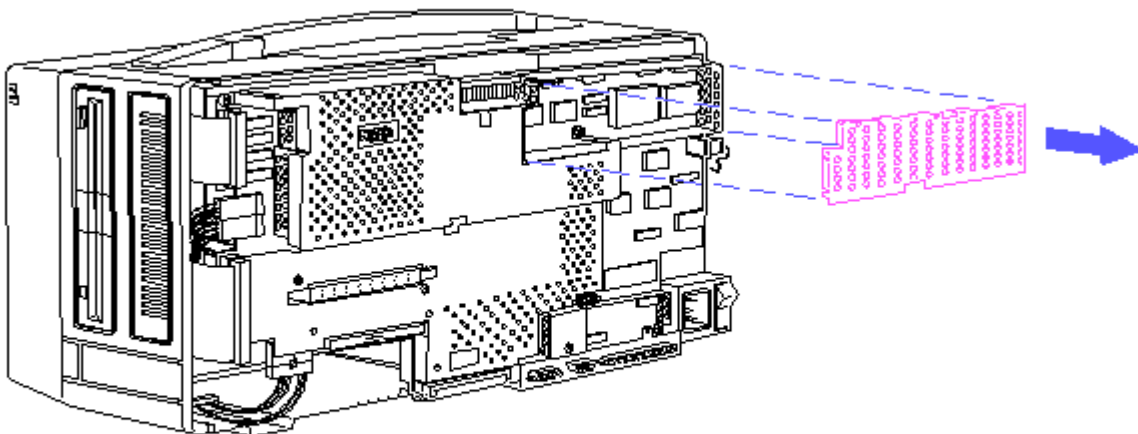

Figure 8-8. Removing the Microprocessor Cover
4. Grasp the microprocessor cover at its edges; gently lift it up and away from the system board and set it aside (Figure 8-8).